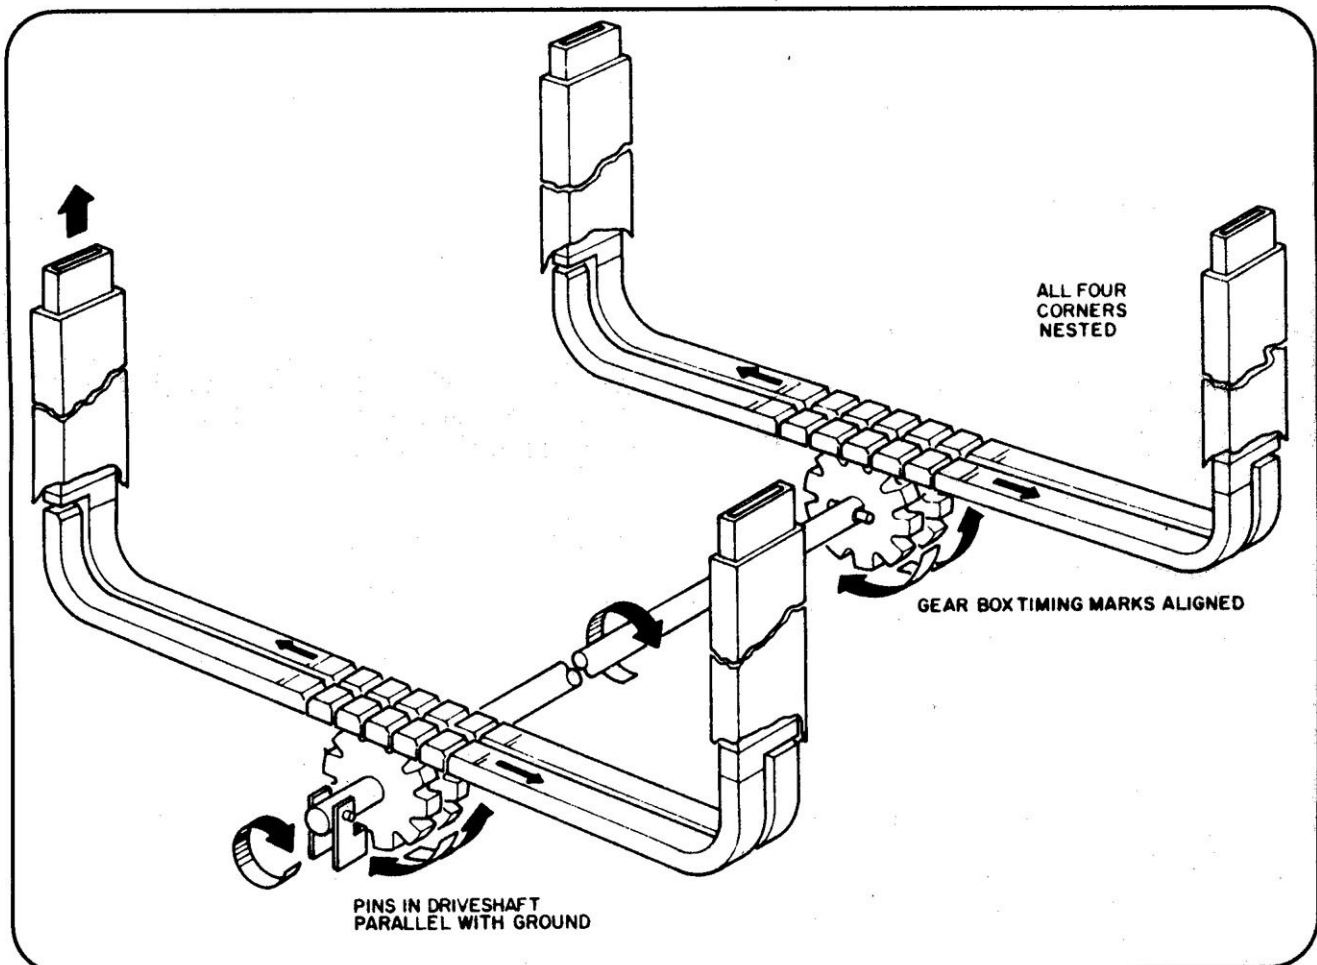

Figure 1. Lift System Operation
The entire lift system and its movement during raising, are shown in Figure 1.
a. GENERAL. The lift system shown in figure 1 is a closed system in time. Essentially it is in time since all corners are down together. This closed position is the reference point to which we can return to resolve timing problems.